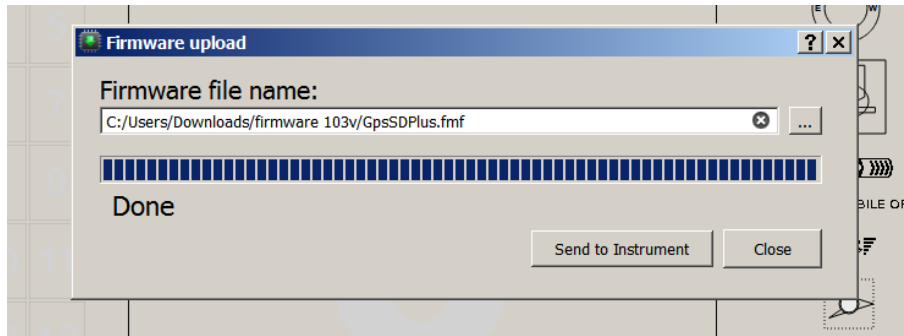

Figure 9.2: Firmware Update Done
6. When the process is finish the application shows a message saying *complete* (see Figure 9.2). Disconnect the USB cable and the GPS SD will start to work.